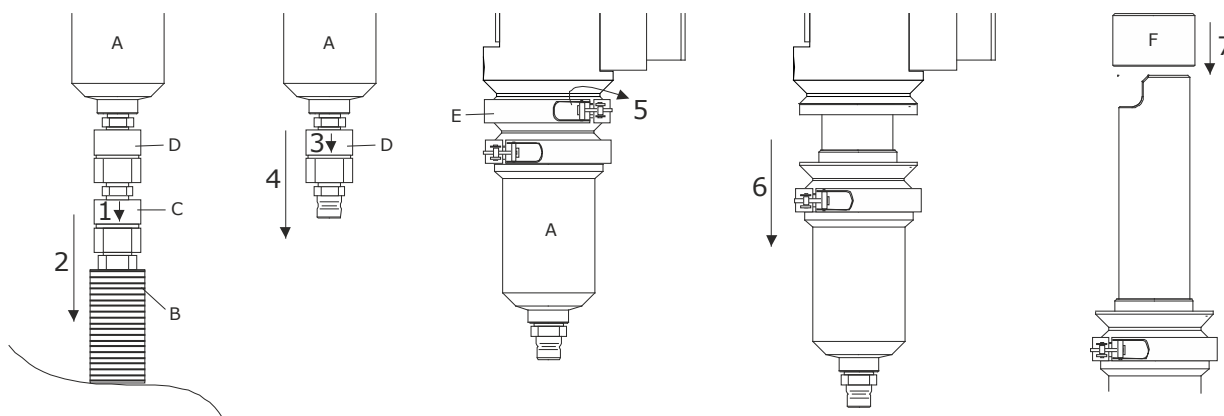

Figure 21. Uninstalling the filter cartridge
- > disconnect the heated sample line rapid connector by pulling the outer ring (No. 1 in Figure 21) down and releasing the connector from its fixed stem.
- > Close the heated sample line end with a paper towel or a silicon plug to avoid foreign objects from entering into the tube then move it away from the cartridge's bottom (2)
- > disconnect the filter temperature sensor unit's rapid connector by pulling the outer ring (3) down and releasing the connector from its fixed stem. Move the unit away from the cartridge's bottom (4)
- > holding up the filter chamber (A), open the upper quick fastener clamp (E) of the cartridge then release and remove it (5)
- > still holding with the filter chamber (A), carefully pull down the cartridge out of the heat exchanger taking care not to turn the cartridge during this process (6)